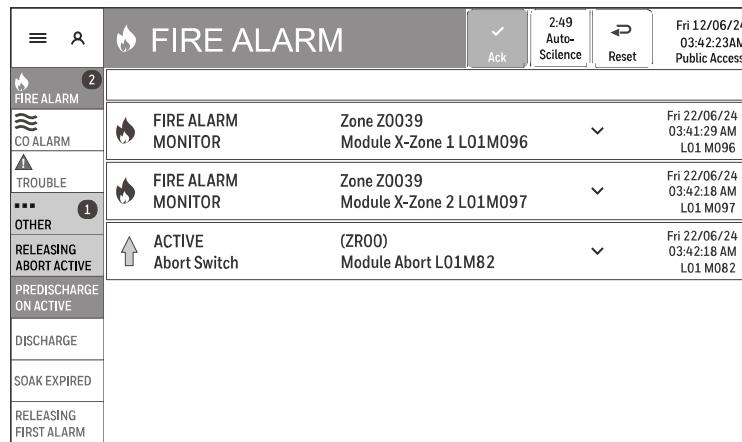

Figure 4-18: Abort Switch Active Screen
- The alert bar tile will turn yellow/ amber when any releasing zone on the local node is in the abort state or the cross abort state. See Figure 4-18: Abort Switch Active Screen